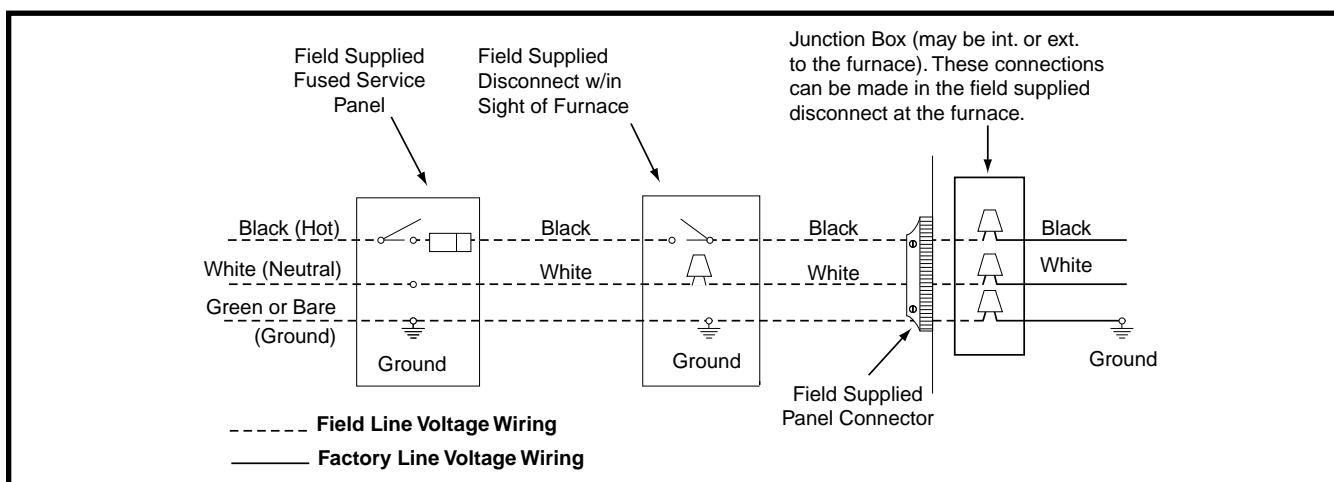

Figure 38. Line Voltage Field Wiring
- An electrical disconnect must be installed readily accessible from and located within sight of the furnace. See Figure 38 (page 32) or the wiring diagram label inside of the control door. Any other wiring methods must be acceptable to authority having jurisdiction.
- Proper line voltage polarity must be maintained in order for the control system to operate correctly. Verify the incoming neutral line is connected to the white wire and the incoming “hot” line is connected to the black wire. The furnace will not operate unless the polarity and ground are properly connected as shown in Figure 38.